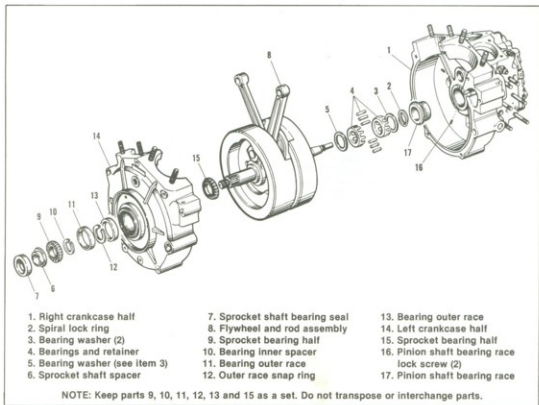

Figure 3-41. Crankcase
- See Figure 3-41. Position crankcase with gearcase (right side) up. Tap crankcase with rawhide or soft metal mallet to loosen right half. Lift right crankcase half (1) off pinion shaft main bearings. Remove spiral lock ring (2) from pinion shaft with tip of screwdriver. Lift bearing washers (3 and 5) with bearings and bearing retainers (4) off pinion shaft.
3. Examine pinion shaft and right crankcase bearing race (17, Figure 3-41) for pitting, grooving and gouging at point where right main roller bearings ride. A shaft that is worn must be replaced. If bushing is worn beyond repair, replace as described in TRUING AND SIZING SHAFT MAIN BEARING.